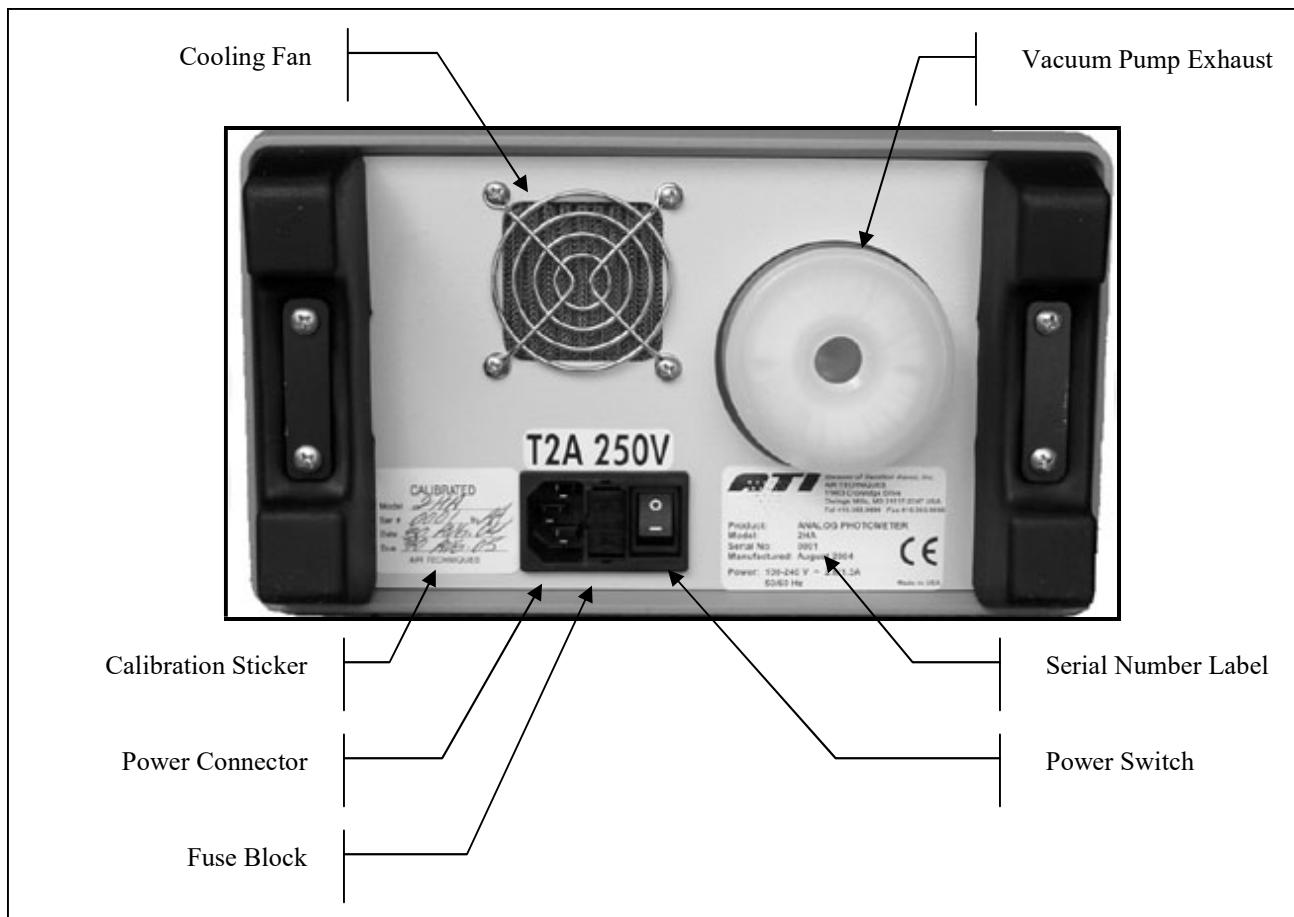

Figure 4
1. Check to make sure the Aerosol Photometer is turned off. (Refer to figure 4 for the location of the power switch.)